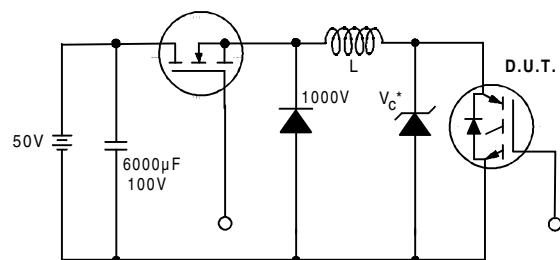

Figure 19. Clamped Inductive Load Test Circuit
- ② $V_{CC}=80\% (V_{CES})$, $V_{GE}=20V$, $L=10\mu H$, $R_G= 100\Omega$ (figure 19)
- ③ Pulse width $\leq 80\mu s$; duty factor $\leq 0.1\%$.
- ④ Pulse width $5.0\mu s$, single shot.